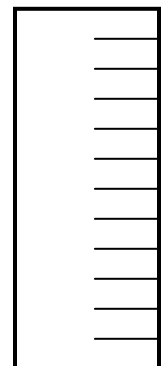

Figure 1
- d. Every 1" Cut a 3" flange across the TegraTite strip (Figure 1).